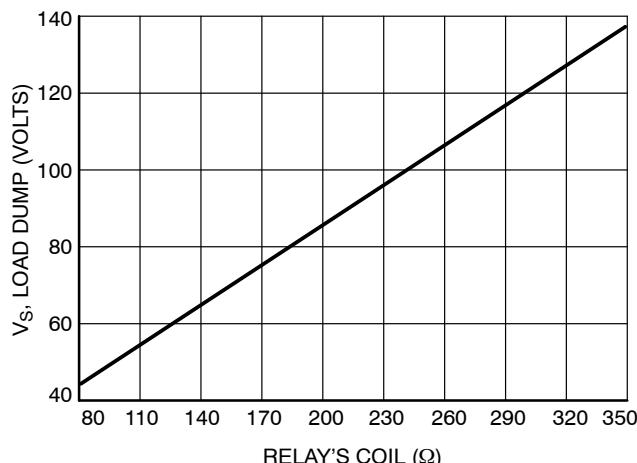

Figure 4. Load Dump Capability versus Relay's Coil dc Resistance
5. For relay's coils/inductive loads higher than 80 Ω, see Figure 4.